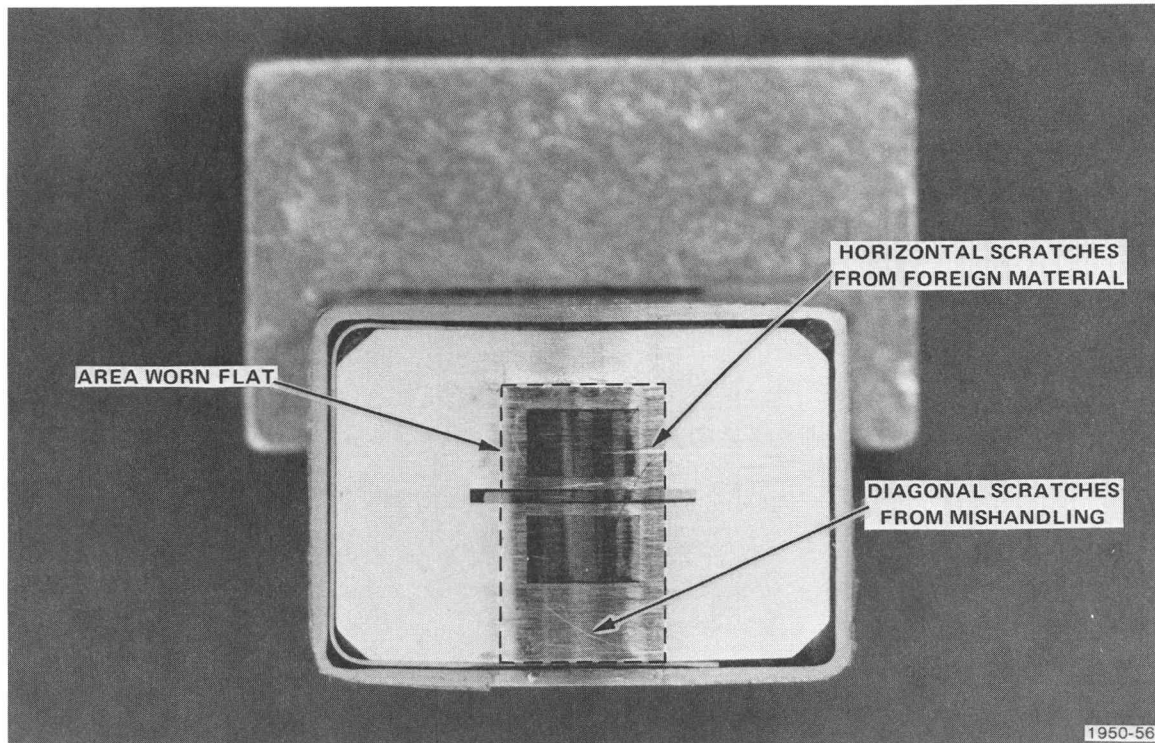

Fig. 15-3. Tape head damage.
4. If the head is dirty, continue with this procedure. However, if the head is scratched, scored, or excessively worn (Fig. 15-3), it should be replaced by a Tektronix Field Service Specialist.